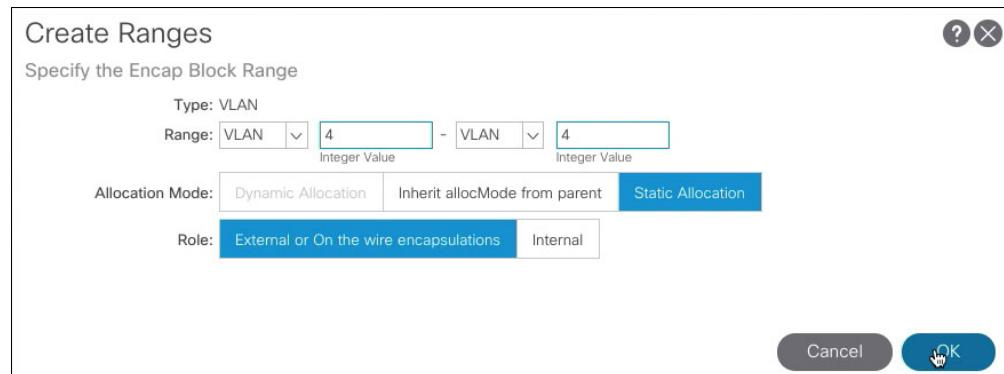

Figure 4-3 Create Ranges window
4. Enter a single VLAN 4, select **Static Allocation**, and click **OK** (Figure 4-3).